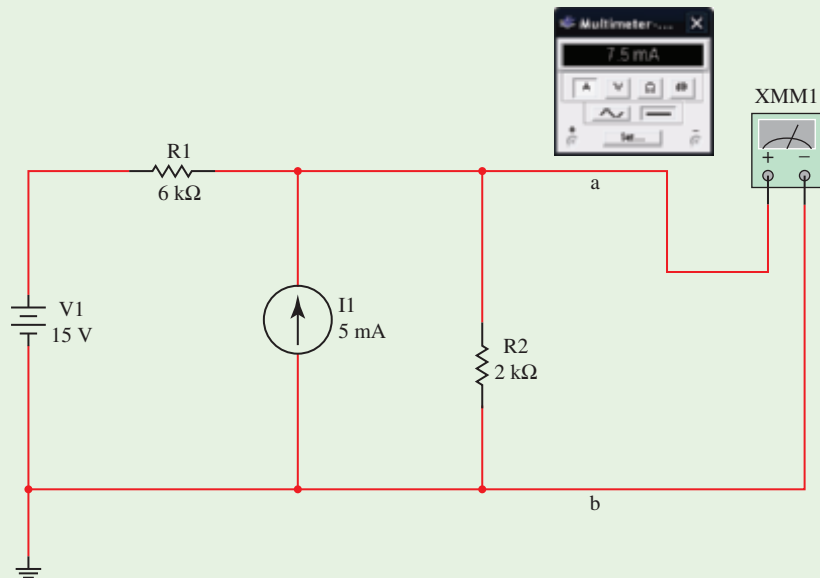

FIGURE 9–69
- c. With the multimeter between terminals a and b , the Norton current is easily measured by switching the multimeter to its ammeter range. After clicking on the power switch, we obtain a reading of $I_N = 7.50$ mA as shown in Figure 9–69.
- d. In order to measure the Thévenin resistance, the voltage source is removed and replaced by a short circuit (wire) and the current source is removed and replaced by an open circuit. Now, with the multimeter connected between terminals a and b , it is set to measure resistance (by clicking on the Ω button). After clicking on the power switch, we have the display shown in Figure 9–70. The multimeter provides the Thévenin resistance as $R_{Th} = 1.5\text{ k}\Omega$.